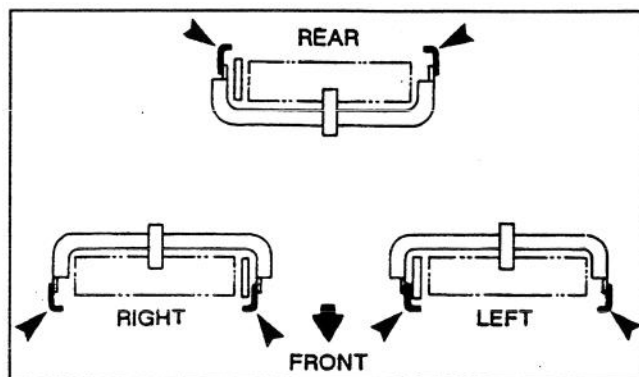

Figure 5
2. Loosely mount basket mounts to all (3) carrier frames with U-bolts and locknuts. Position basket mounts on front sides of front carrier frames and on rear sides of rear carrier frames, as shown in figures 5 & 9. Slide basket mounts down until they bottom out on end of carrier frame, then tighten locknuts.
3. Place rear basket flap under rear deflector and fasten with (8) pop rivets, supplied in kit (Fig. 5). Head of pop rivet to be positioned on under side of rear basket flap (Fig. 5).